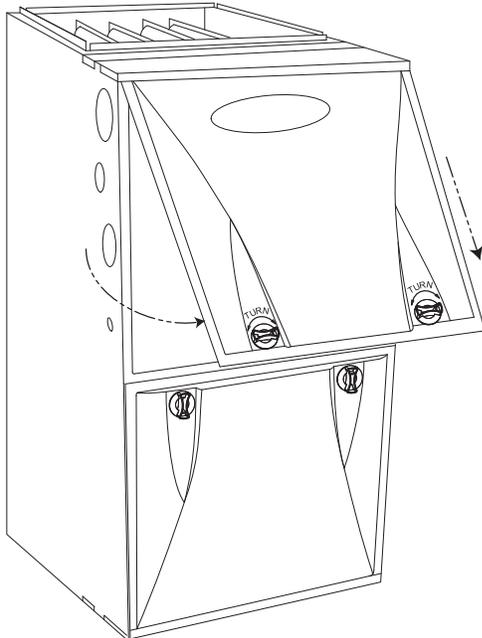

Fig. 10 – Remove Main Furnace Door (Upflow Configuration)
4. Remove the main furnace door. See Fig. 10.
4. Remove main furnace door. See Fig. 10.